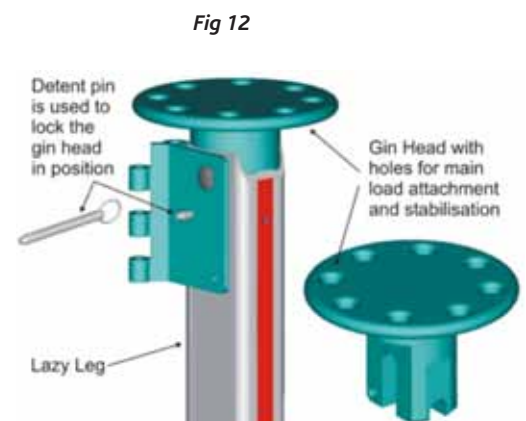

Fig 12
2. Ensure the Foot Locating Spike feeds easily through Standard Foot hole as illustrated in Fig 12.
## GIN HEAD INSPECTION (Fig 12)